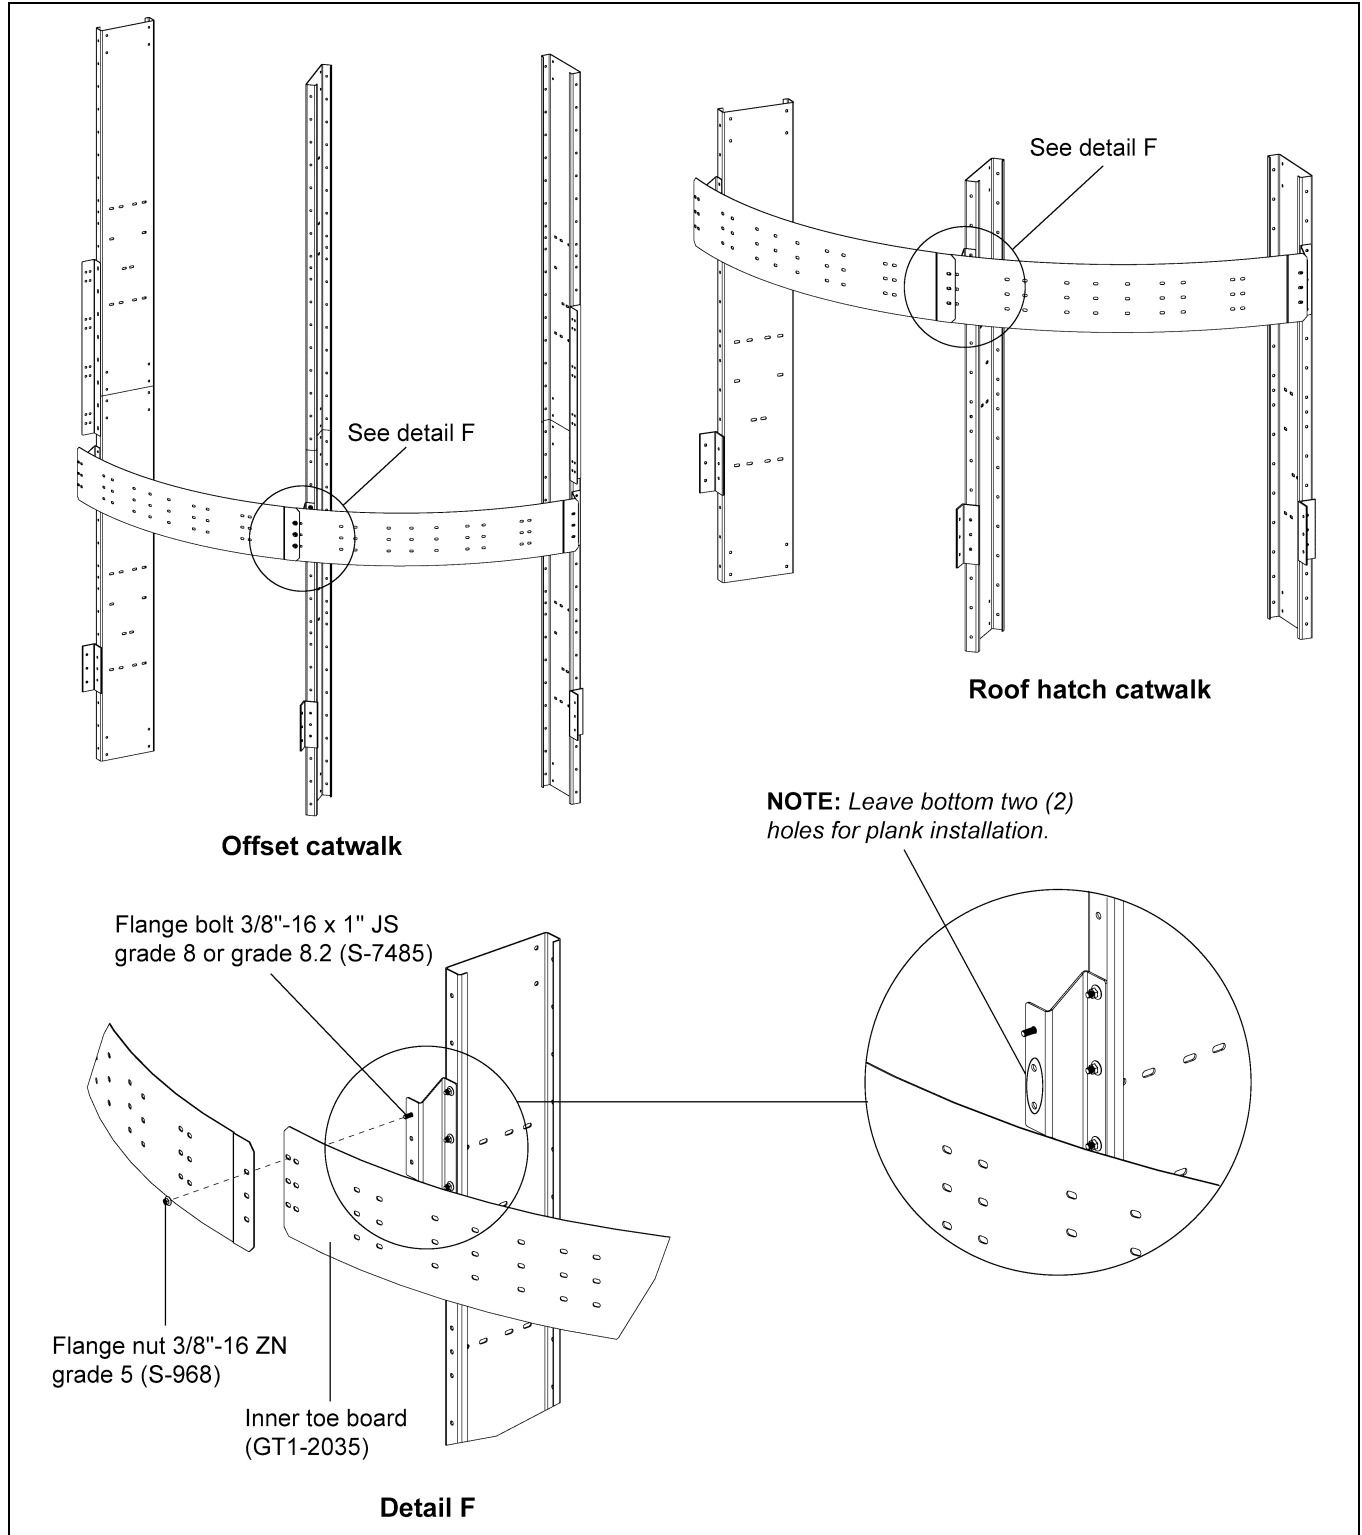

Figure 6K Inner Toe Board Installation for Offset and Roof Hatch Catwalks
1. Install the inner toe board (GT1-2035) to the Z-clips (GT1-2036). *(See Figure 6K.)*
2. All the toe boards should be installed between the Z-clips using 3/8"-16 x 1" JS grade 8 or grade 8.2 bolts (S-7485) and 3/8"-16 ZN grade 5 nuts (S-968). *(See Figure 6K.)*